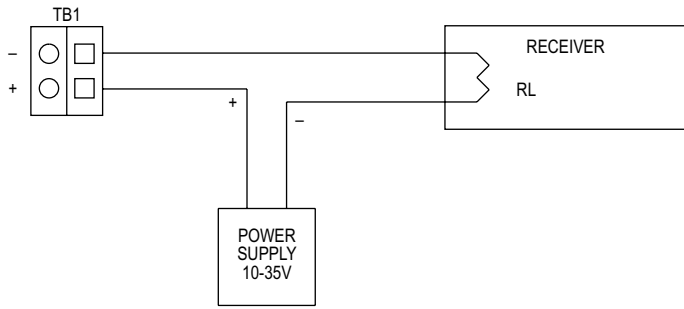
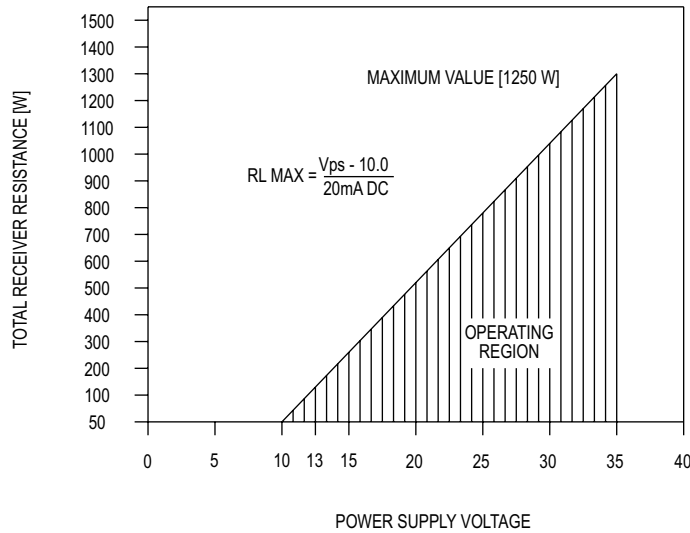

Figure 1
Figure 2
An external power supply delivering 10-35 VDC with a minimum current capability of 40 milliamps must be used to power the control loop in which the Magnesense® transmitter is connected. Refer to Figure 1 for connection of the power supply, transmitter and receiver. The range of appropriate receiver load resistances (RL) for the power supply voltage available is given by the formula and graph in Figure 2. Shielded two wire cable is recommended for control loop wiring and the negative side of the loop may be grounded if desired. Note also that the receiver may be connected in either the negative or positive side of the loop, whichever is most convenient. Should polarity of the transmitter or receiver be inadvertently reversed, the loop will not function properly but no damage will be done to the transmitter.